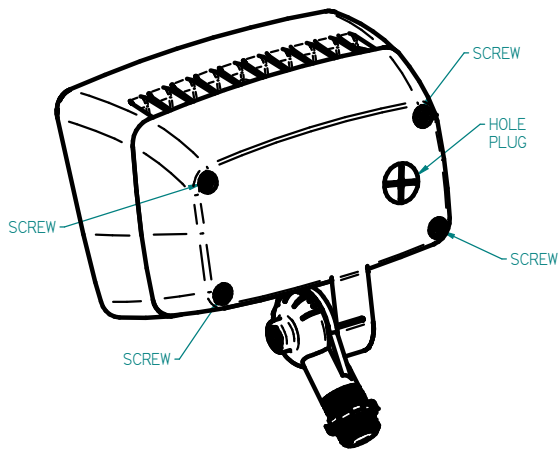

Fig. 4
**Installing the Photocontrol (See Fig. 4 and Fig. 5)**
- Using a phillips head screw driver, remove the 4-Screws and Hole Plug shown in Fig. 4.
- Reinstall the Rear Housing and tighten the 4-Screws shown in Fig. 4.